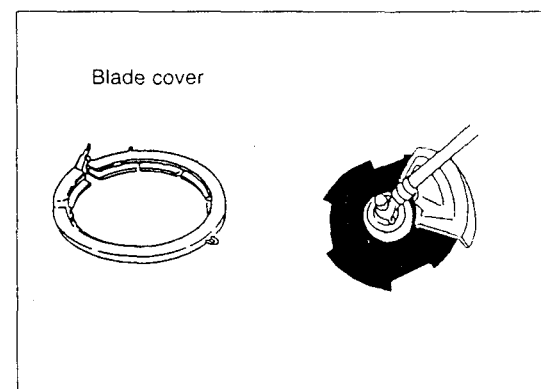

Fig 39
- Use the blade cover when you transport or store the brush cutter, to prevent injury and damage to the blade (Fig.39).